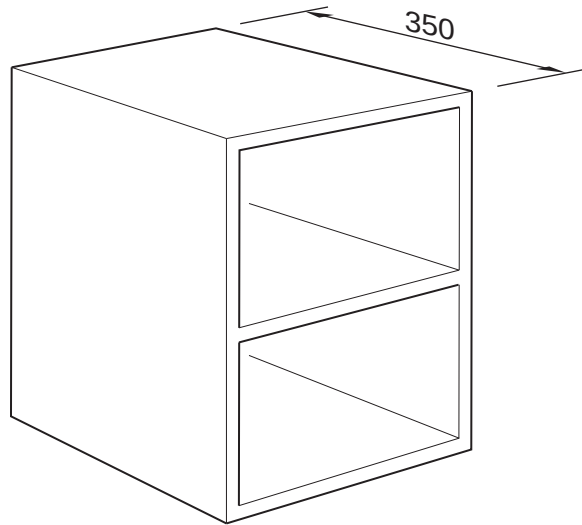

Fig. 2
- 2 Fig. 2 shows an outline design for a bedside cabinet.